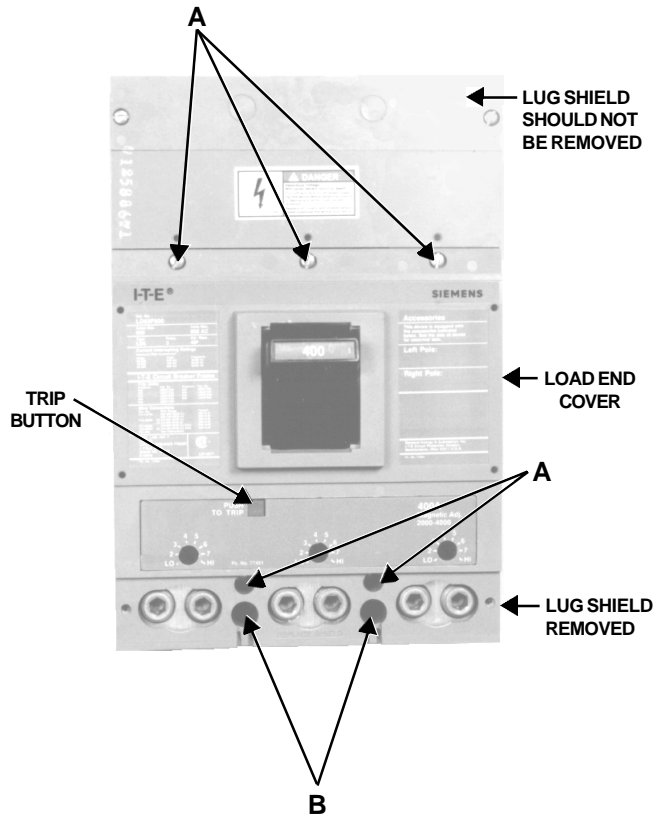
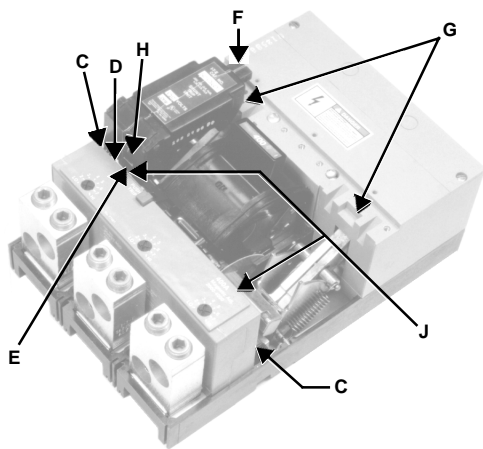

Fig. 1
Fig. 2
2. Make sure device is in tripped position. For circuit breakers: depress the red trip button (see fig. 1). For molded case switches: Removing the cover will trip the mechanism.
3. Remove two lug shield screws on load end shield (not shown) and (5 or 9) load end cover screws (A, Fig. 1) and, if device is mounted, also remove mounting screws (B, Fig. 1). Remove load end cover only. Remove label from trip unit that covers the accessory access opening at the back of trip unit (J, Fig. 2). Accessory units can be mounted in either right or left poles of the device. Except for types with an "S" prefix or an "FP" suffix, they can **ONLY** be mounted in the **RIGHT POLE**. If installed, remove paper label covering trip unit interface access port which states "remove this label before installing shunt trip U.V. trip or bell alarm accessory".
4. Feed leads through opening at bottom of accessory case for right hand or left hand mounting in device. (Leads should always exit accessory toward outer edge of device.) Feed accessory leads down and through 5/16 X 1/2 elongated opening (C, Fig. 2) to bring leads out bottom of device. NOTE: Leads must be brought out in the same order as they exit wire retainer of accessory case.
5. Accessory is located in the device by groove (E, Fig. 2), bottom side of accessory. Slide accessory down to rest on pad (D, Fig. 2) Trip Unit. When accessory is installed correctly, front of accessory (F, Fig. 2) will rest on pad (G, Fig. 2) of line cover. Pull gently and evenly on accessory wire leads (2 to 6 wires) while lowering accessory into base. Make sure all the **slack** is removed from leads inside device.
NOTE: On shunt trip and undervoltage trip units, be sure transfer link (H, Fig. 2) is in opening (J, Fig. 2 & 3) at back of trip unit.